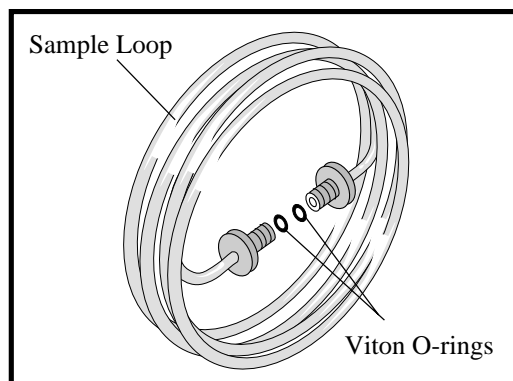

Figure 6.1. 5-mL Sample Loop
2. Remove the Viton® o-rings (Part #257378) on each sample loop end (see Figure 6.1). These o-rings can be removed with any small tool.